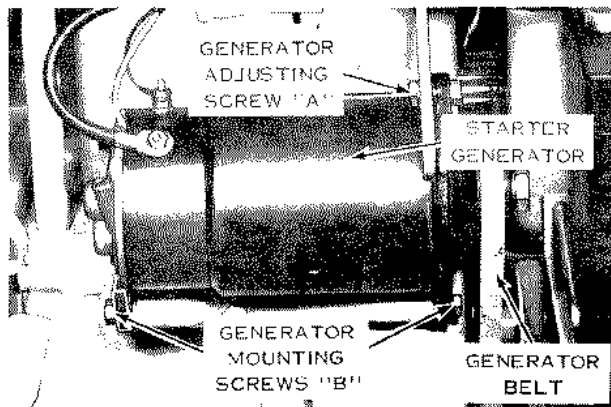

Figure 5
6. Check generator belt for proper tension. Belt should depress 1/4 inch between pulleys with normal thumb pressure as shown in Figure 5. Should adjustment be required, shut engine off, loosen the 2 lower generator mounting screws "B" and generator ad-